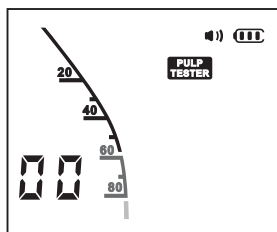

Fig.33
- 3) Switch to pulp tester mode by successive presses on the MODE SWITCH button, visual information appears,  appear indicates that the pulp tester is ready for use (Fig.33).